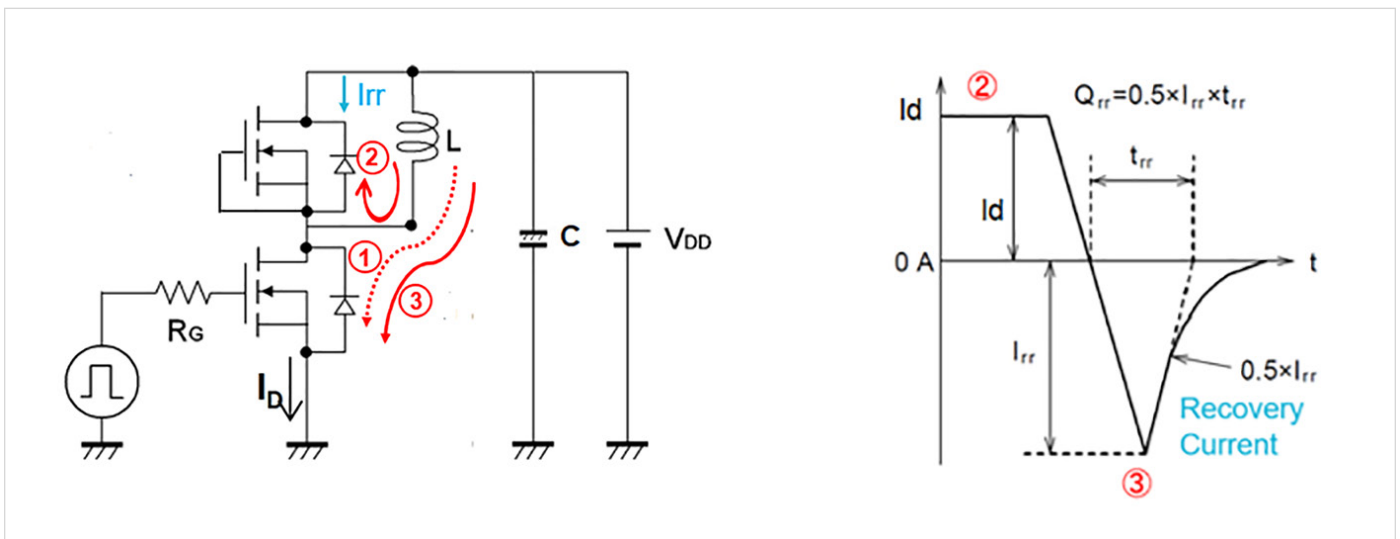

Figure 21: Diode reverse recovery.
Reverse recovery current occurs during the turn-on of the second pulse. As shown in **Figure 21**, the diode is conducting in a forward condition during phase 2. As the low side MOSFET turns on again, the diode should immediately switch to a reverse blocking condition; however, the diode will conduct in a reverse condition for a short period of time, which is known as the reverse recovery current. This reverse recovery current is translated into energy losses, which directly impact the efficiency of the power converter.
**Figure 21** also shows how reverse recovery parameters are retrieved below.